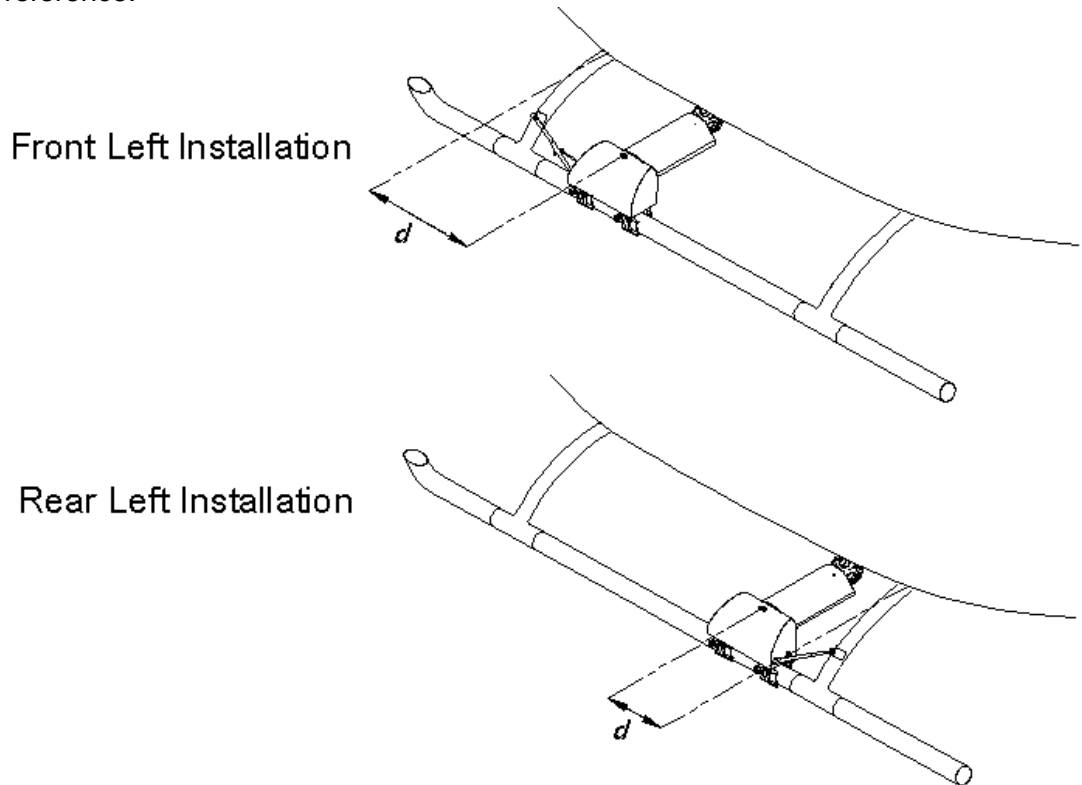

Figure B.1: Installation Location Weight and Balance
- (1) Figure B.1 and Table B.1 demonstrate an alternate method of measuring the longitudinal C.G. location using the strut's attachment to the helicopter as a reference.